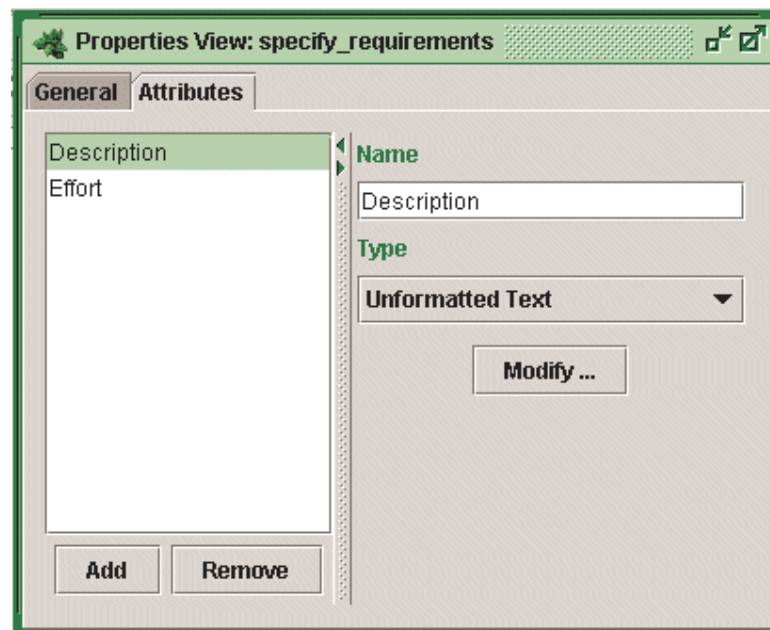

Fig 2.3
- Properties View for giving additional information about a specific entity, e.g., defining attributes (see Fig 2.3).